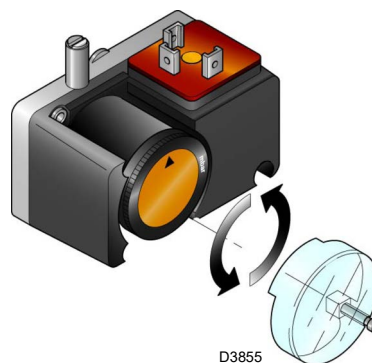

Fig. 33
- Adjust the minimum gas pressure switch (Fig. 33 at page 36) to the start of the scale.
Adjust the minimum gas pressure switch (Fig. 33) after having adjusted the burner, the gas valves and the gas train stabiliser.